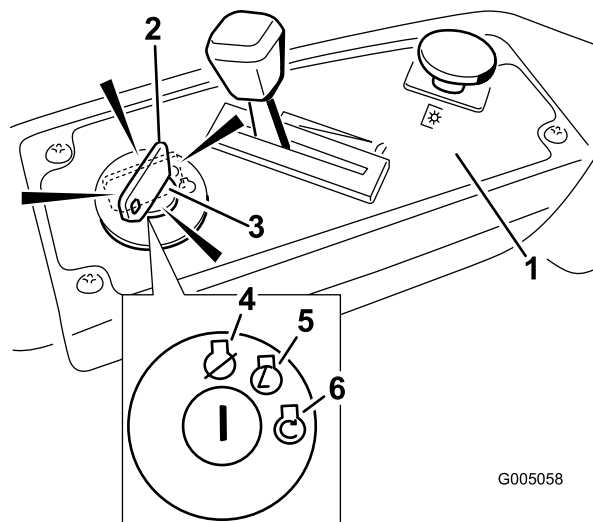

Figure 17
4. Turn the ignition key to Start to energize the starter. When the engine starts, release the key (Figure 17).
- Move the throttle lever to between Fast and half throttle (Figure 17).